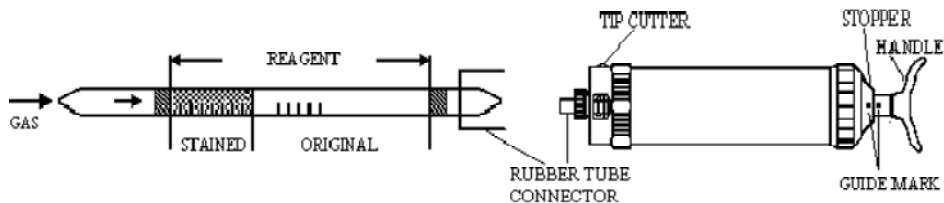

Fig.1
- ② Insert the detector tube into aspirating pump securely as shown in Fig.1. (Arrow mark shall point to the pump.)
- ③ Align the guide marks on the shaft and stopper of the aspirating pump.
- ④ Pull the pump handle at full stroke until it locks and wait for 1 minute or until the completion of sampling is confirmed with the flow indicator of the pump (See descriptions about the flow indicator in the instructions of the pump).